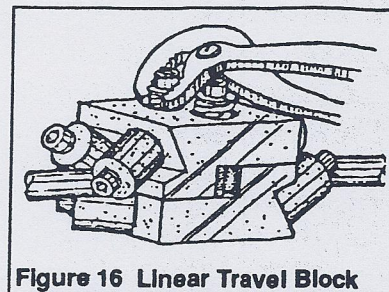

Figure 16 Linear Travel Block
e. Be sure the linear travel block is adjusted to 28 pounds and no more than 30 pounds of closing force. Recheck closing speed after closing force is adjusted. (Figure 16)